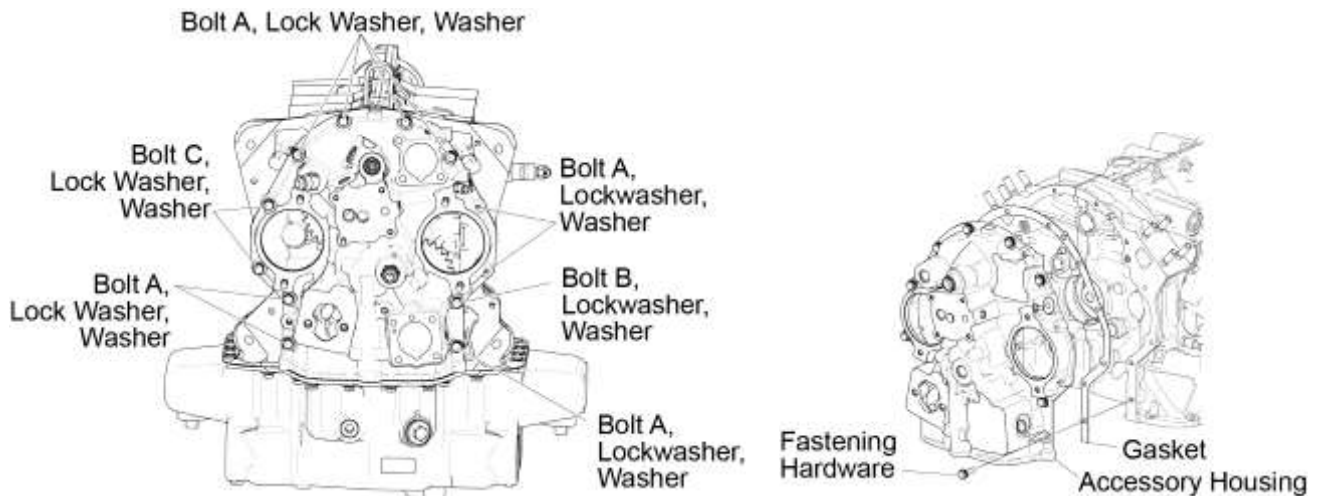

Figure 1
- H. Remove all of the Bolts A, B, and C, lock washers, and washers from the external side of the accessory housing shown in Figure 1. Discard the lock washers.
- I. While one person supports the accessory housing, remove the two bolts, lock washers, and washers from the other side of the accessory housing as shown in Figure 1. Discard the lock washers.